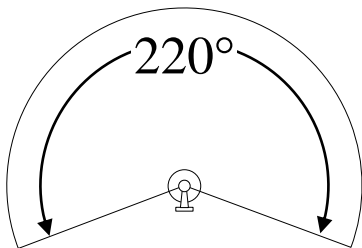

Fig. 1
1. When selecting a location, be aware of the motion sensor's maximum range of 30 ft and 220° detection angle (**Fig. 1**). In addition, be aware of its 15° detection down-angle (from horizontal) (**Fig. 2**). Mounting the fixture too high or in front of a sloped surface, such as an uphill walkway or driveway, may affect the motion sensor's effectiveness.